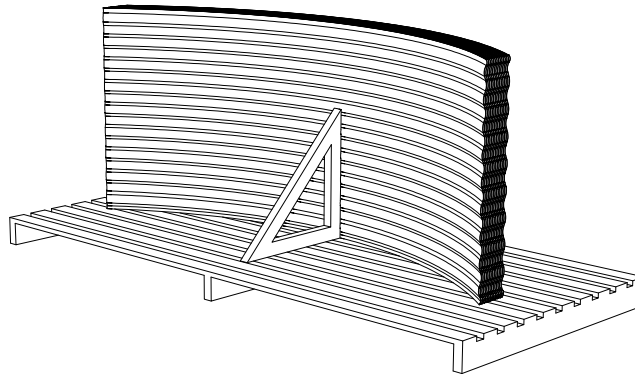

Fig 4 - Brace parts to allow draining
- If bundles become wet or submerged, they should be opened as soon as possible and separated to dry until assembly. Allow parts to drain while maintaining proper bracing to avoid damage or injury from parts falling over. See Figure 4.